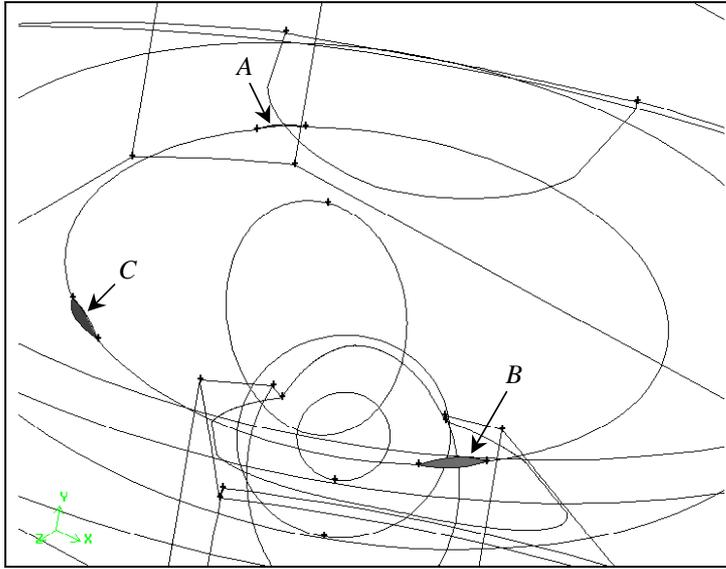

Figure 11-5: Three smallest faces in the model
*Figure 11-5 shows the three smallest faces in the model, all of which lie at the base of the main drill-bit shaft. These three faces correspond to the first three faces listed in the **Items** list.*
GAMBIT displays the area of the selected face in the **Current area** field located below the **Items** list and highlights the selected face (face A in Figure 11-5) in the graphics window.
The A/N (“Apply/Next”) pushbutton removes the currently selected face from the model then updates the **Items** list and automatically selects the next smallest face in the **Cleanup domain**. In this case, GAMBIT eliminates the selected face and automatically selects the next smallest face (face B in Figure 11-5).
GAMBIT eliminates the selected face and automatically highlights the next smallest face (face C in Figure 11-5).